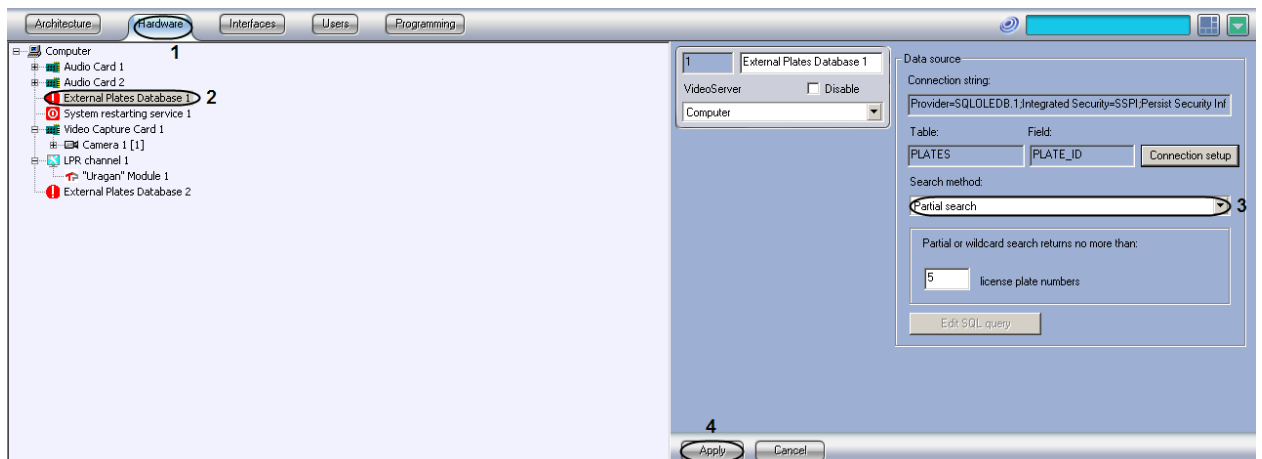

Fig. 7.6—11 Selecting the search method "Partial search" or "Wildcards search"
2. Select the «External Plates Database» in the objects tree (Fig. 7.6—11, 2).
3. Select the value "Partial search" or "Wildcards search" from the list Search method (Fig. 7.6—11, 3).
4. Enter the maximum plates number to be returned while searching via a wildcard or a number's part in the external DB in the «Partial or wildcard search returns no more than» field (Fig. 7.6—11, 4).